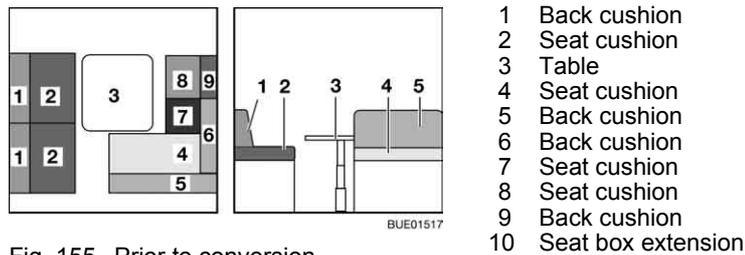
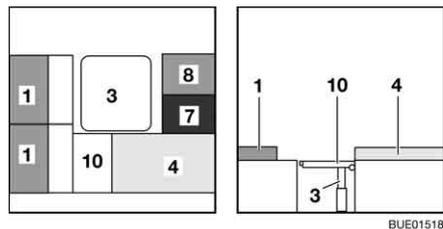

Fig. 155 Prior to conversion
Fig. 156 During conversion
- Convert the table (Fig. 155,3) to a bed foundation (see section 6.11).
- Remove the back cushions (Fig. 155,5, 6 and 9) and lay them aside.
- Remove the seat cushions (Fig. 155,2), fold the seat box extension (Fig. 156,10) outward and rest it in the holder.
- Lay the back cushions (Fig. 156,1) on the divan.